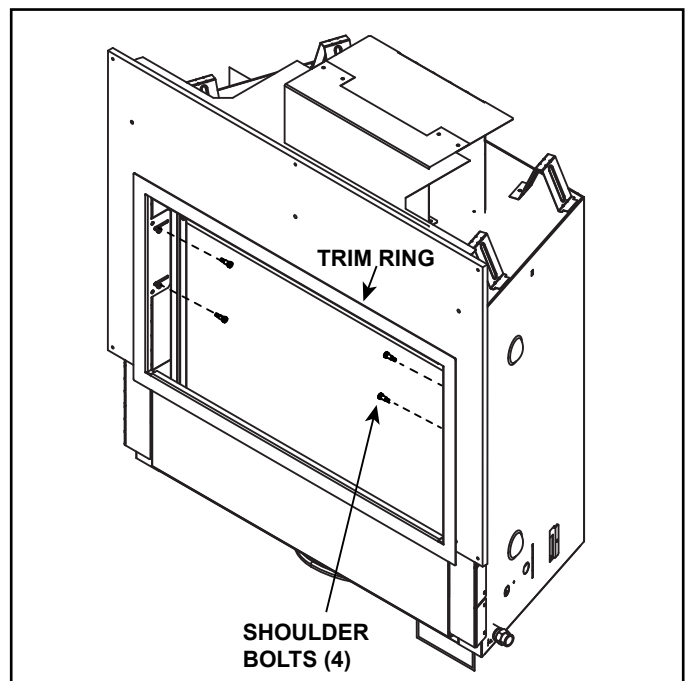

Figure 2. Install Shoulder Bolts
3. Position trim ring within appliance opening, ensuring it is pushed tightly to the finish material. Install four shoulder bolts into appliance through trim ring as shown in Figure 2.